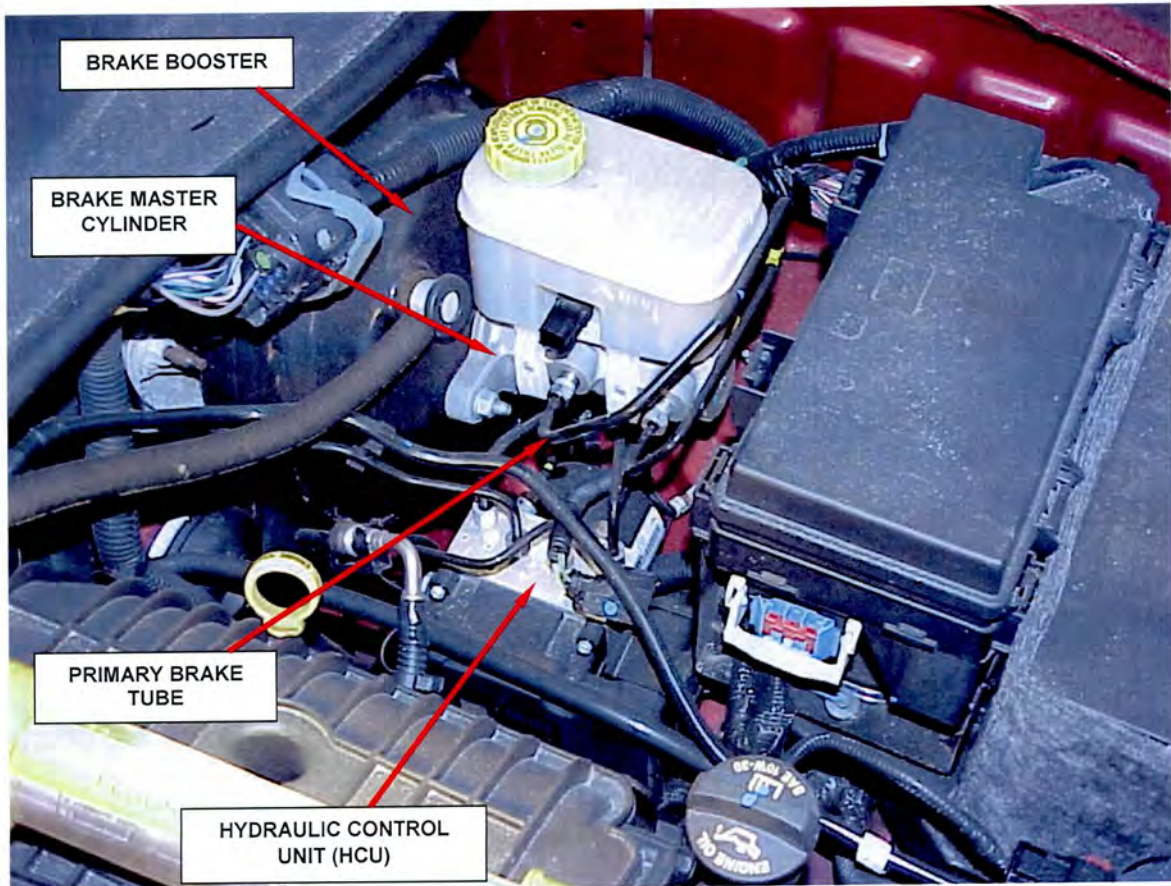

Figure 4 – Component Location
4. Disconnect the primary brake tube at the master cylinder (Figure 4).
5. Disconnect the primary brake tube at the HCU (Figure 4).